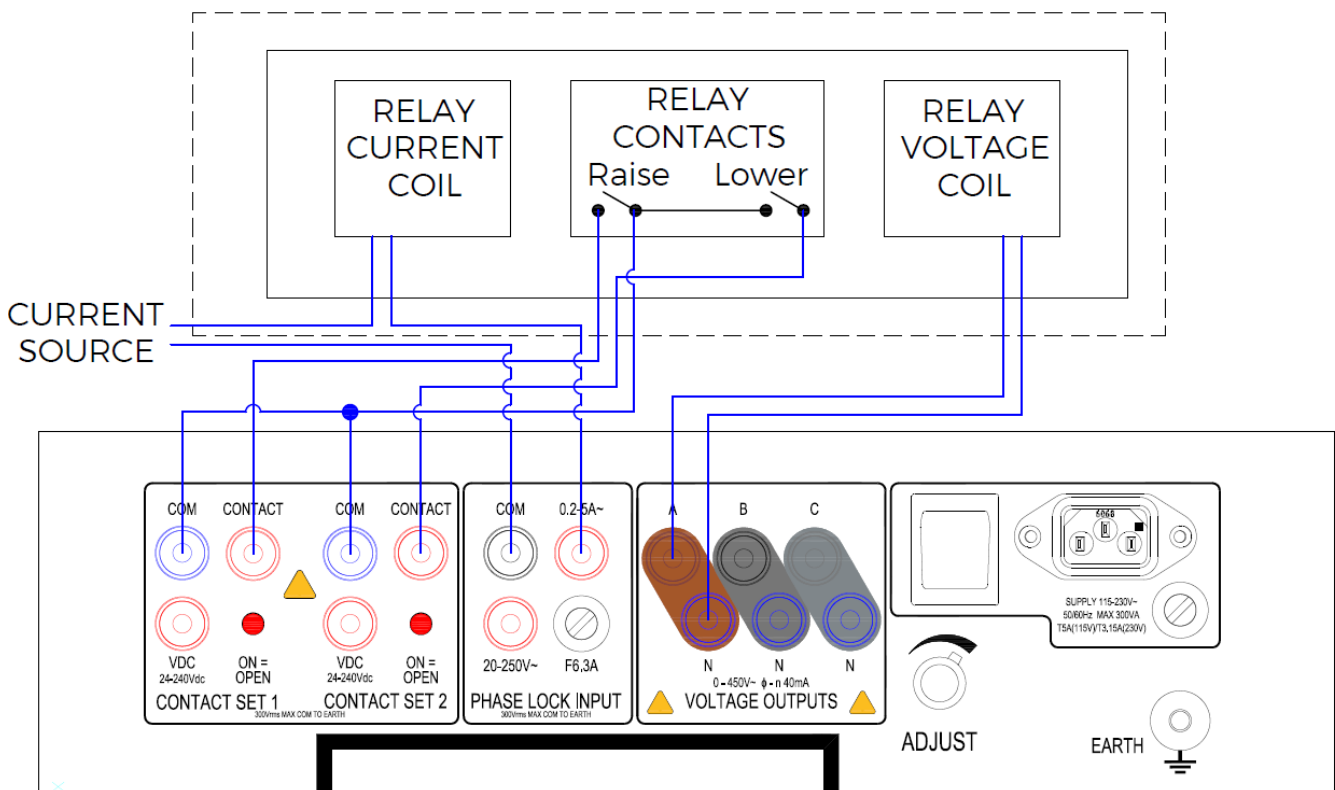

Figure 3.2 Connections for AVR relay with LDC
- Connect an auxiliary supply to the relay if required (not shown in figure 3.2). The auxiliary dc supply output from the 200ADM-P may be used for this purpose.